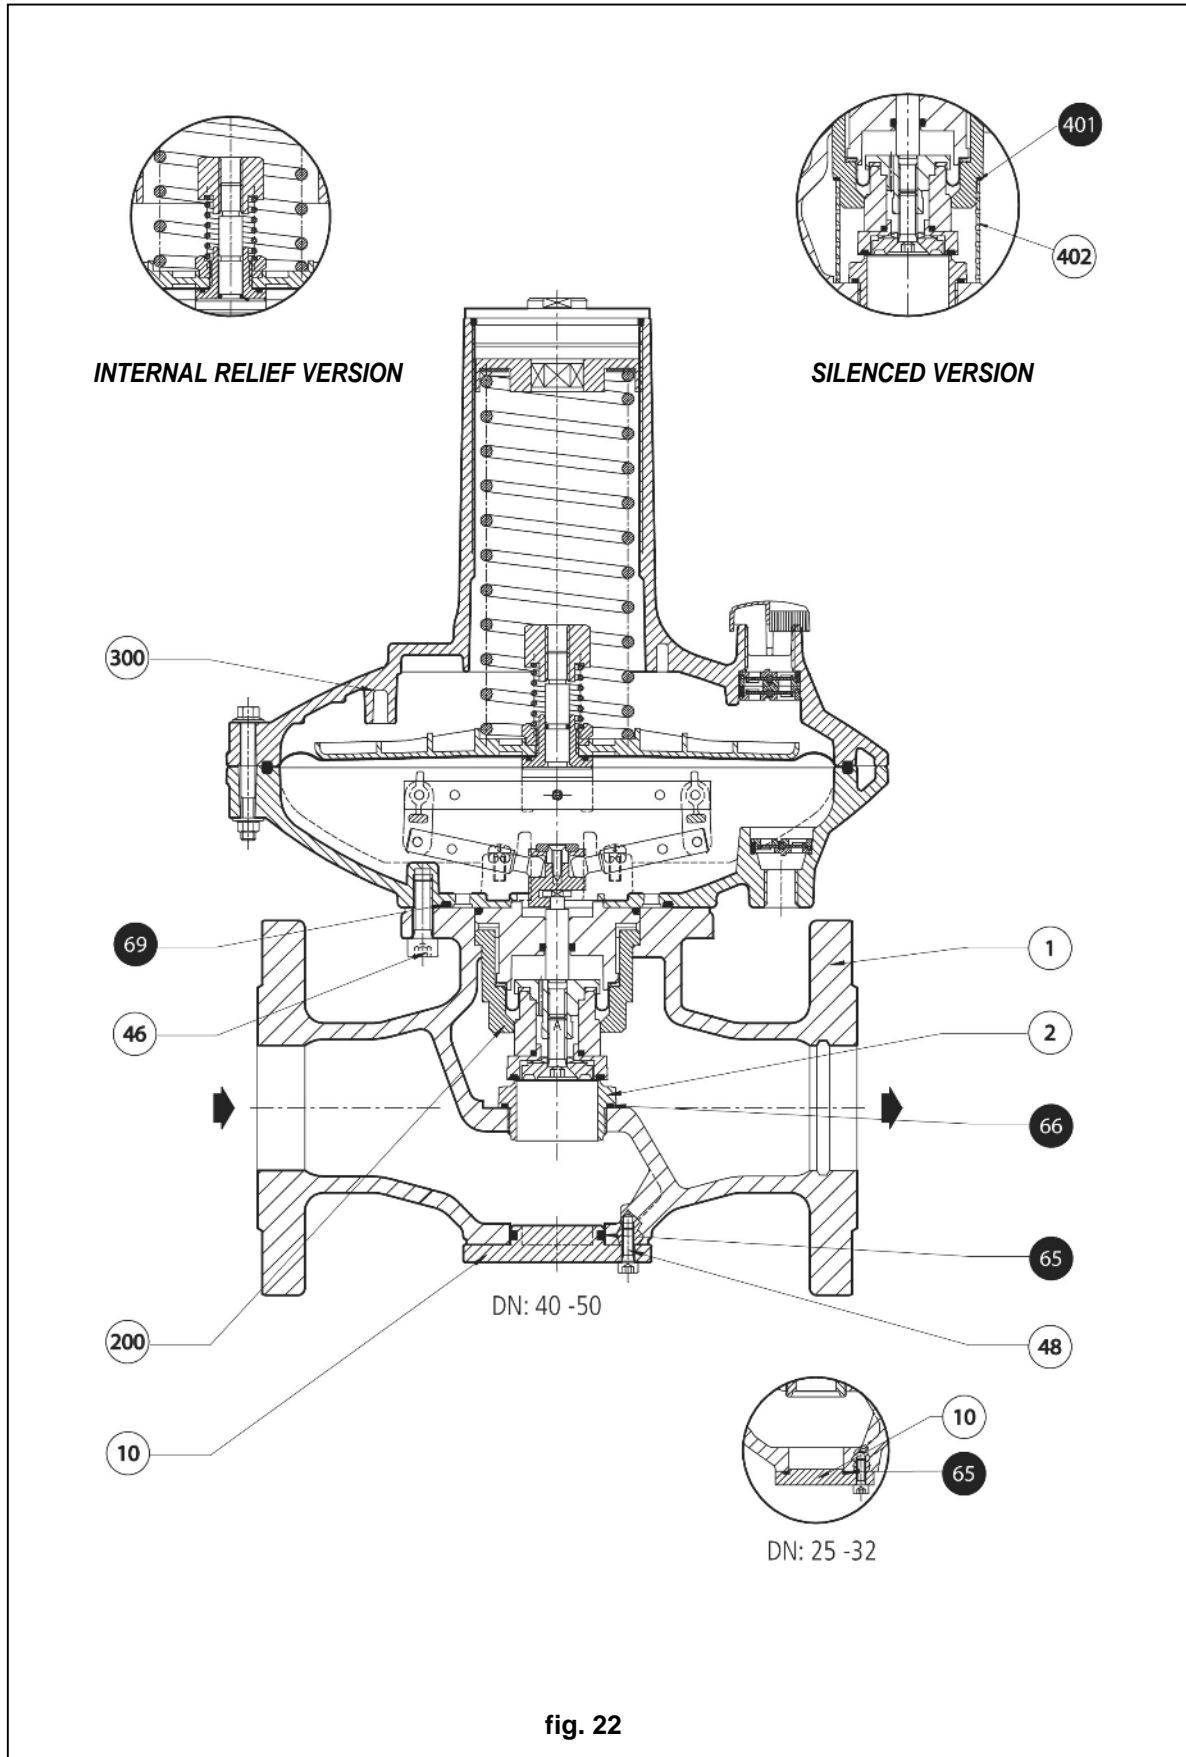

fig. 22
6.1 Tab. 8 DIVAL 600 REGULATOR (fig. 22, 23, 24, 25 and 26)